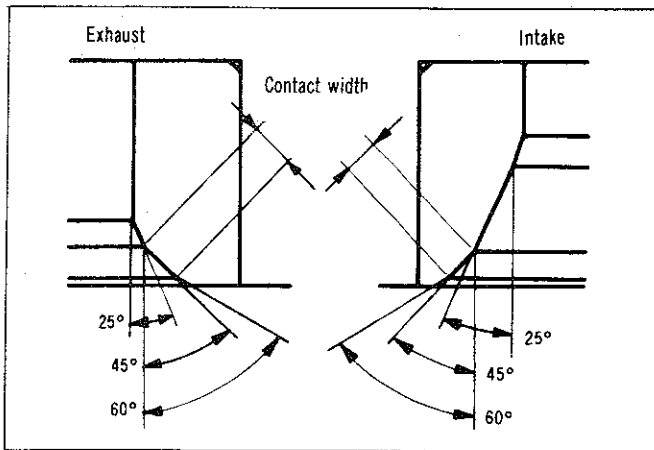

Fig. 16—Valve seat angles
(1) Check valve guide for wear, if faulty replace guide as previously described.
(2) Re-condition the seat using either a seat grinder or seat cutter.
(3) The valve seat contact width should be as specified, at the centre of the valve face and as shown in Fig. 16.
(4) After cutting, lap the valve and valve seat lightly with a fine lapping compound.